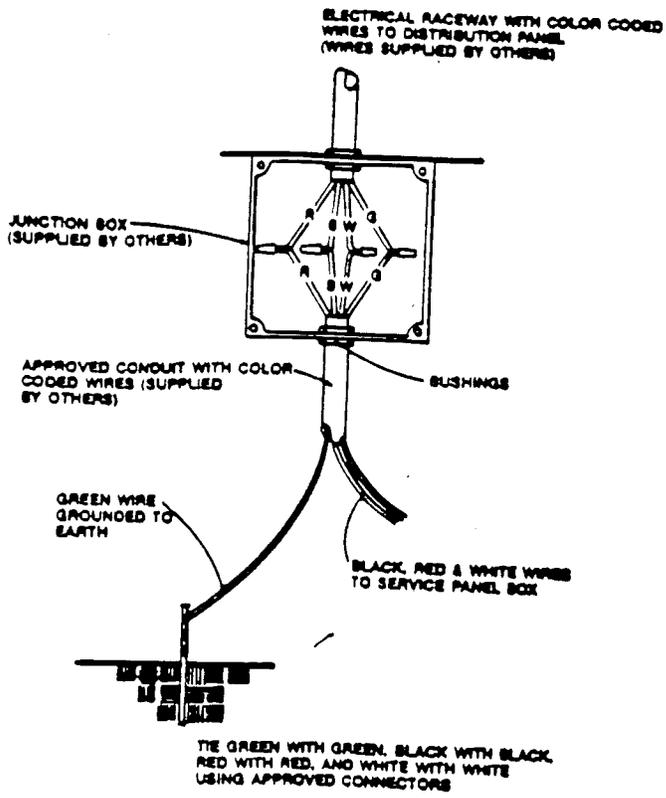

Figure 8.12 - TYPICAL UNDER-SIDE FEEDER ASSEMBLY
**8.6.2.2 Underside Feeders.** Homes with an under-the-floor entrance come with a permanently-attached conduit raceway that runs from the electrical distribution panel to a point under the floor. Install an approved conduit fitting or junction box at the termination point. Refer to Figure 8.12.